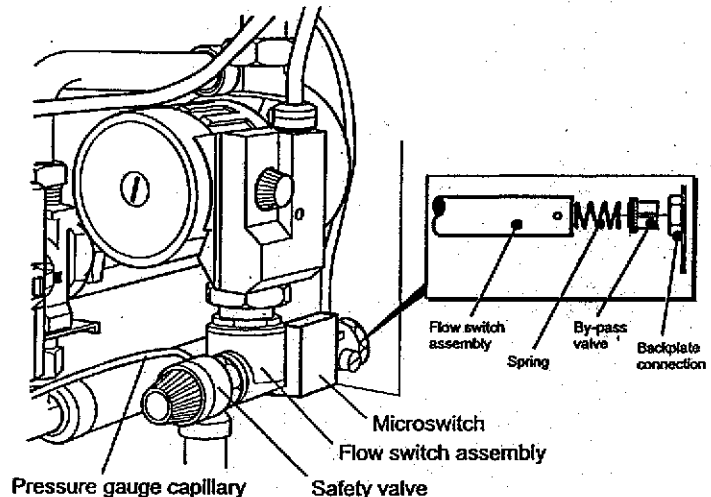

Fig. 21
9.23 PRIMARY WATER FLOW SWITCH (see Fig. 21)
Important: Be careful not to lose the spring and by-pass valve from the end of the assembly (see Fig. 21).